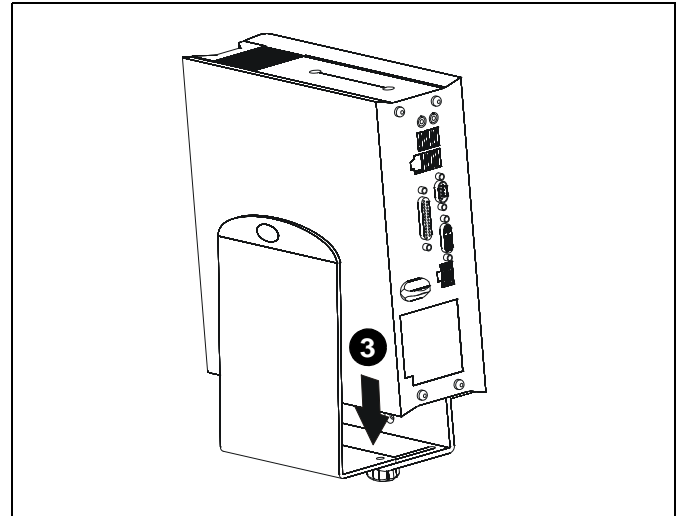

Figure 11
3. Insert CPU into CPU Wall Mount. (See Figure 11)